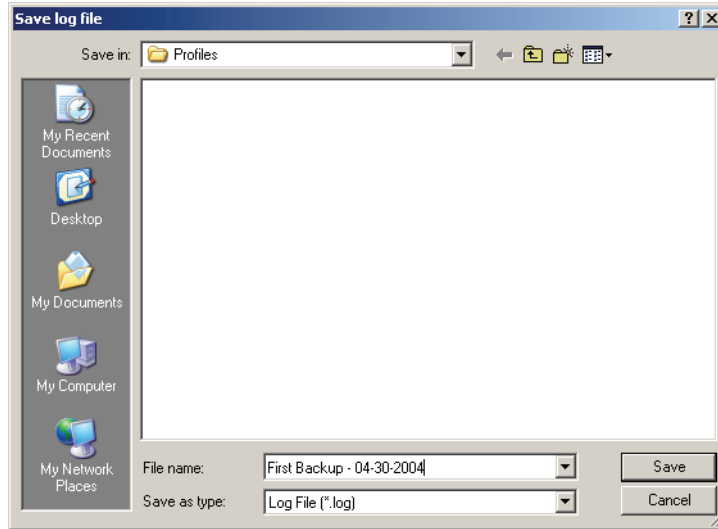

Figure 5-60: Save Backup Log File As
- To save a copy of the backup log, click on the  button. A Save Log File window appears (see Figure 5-60 on page 54 of this section).